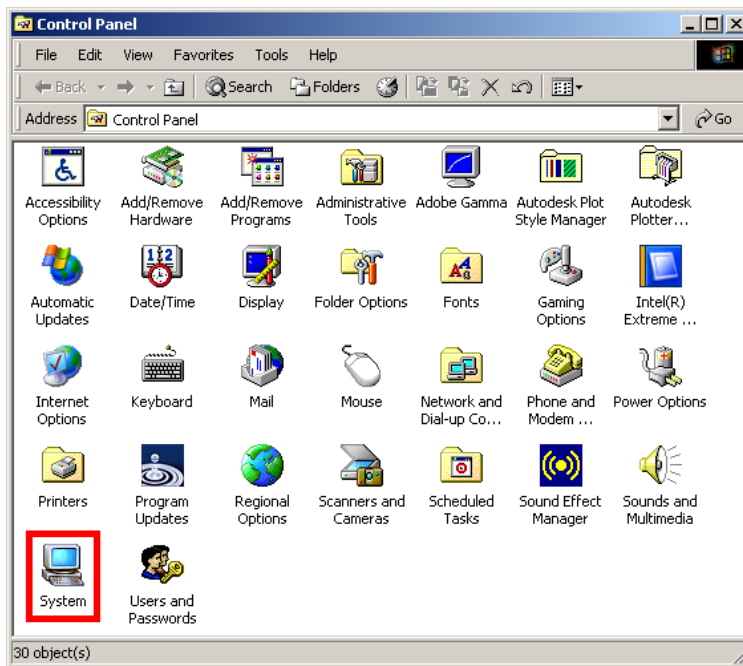

Figure 7-20: System Icon
Step 2: Double-click the **System** icon (Figure 7-20).